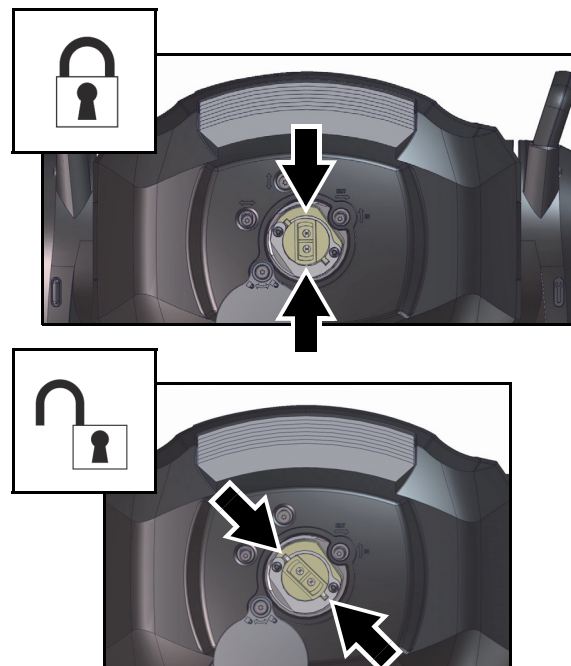

Figure 9: Lamp lock / unlock
5. See Figure 9. Grasp the ceramic lamp base, twist it 45° counterclockwise to release it, then remove the lamp gently from the fixture.